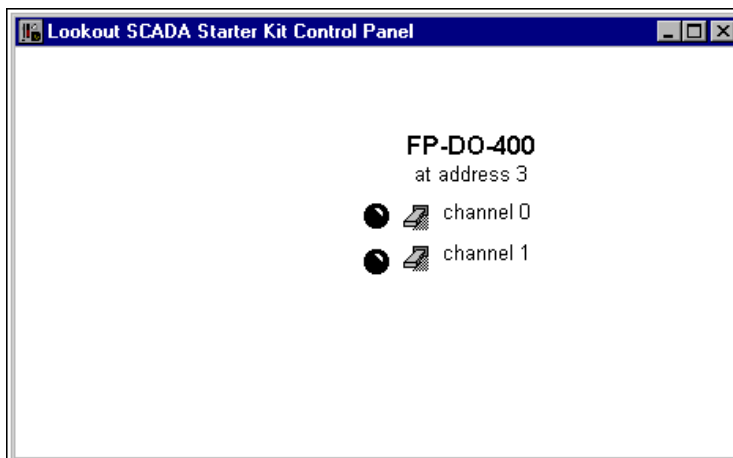

Figure 27. Lookout Control Panel with Switches and Indicators
4. Your front panel should now look something like Figure 27.